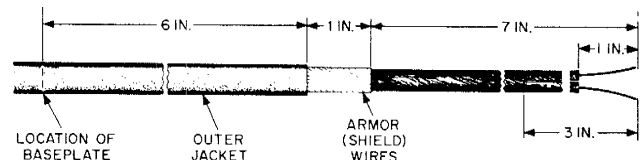

Fig. 2—Preparation of D Underground Wire for B Cable Closure
**3.03** To terminate D Underground Wire, pull slack from the wire and mark the outer jacket about 6 inches above the baseplate. Prepare the end as shown in Fig. 2.